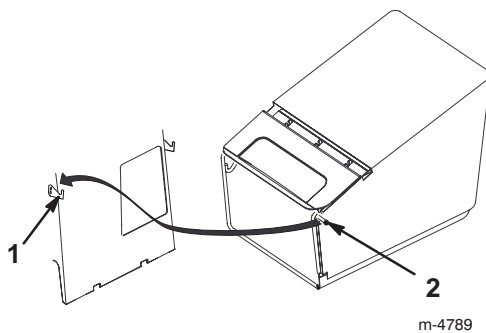

Figure 18
5. Hang the grass bag frame pins onto the hooks as shown in Figure 18.
4. Lift the grass bag frame pins off the hooks and out of the opening as shown in Figure 18.